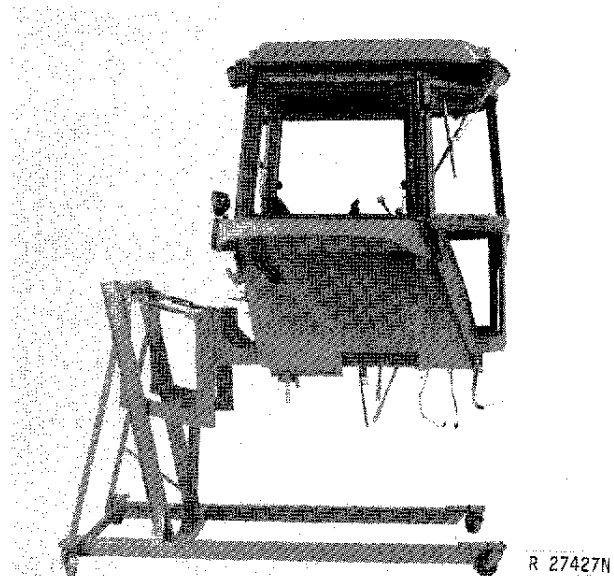

Fig. 11-Sound-Gard Body Removed from Tractor
37. Remove Sound-Gard Body and place on support stand (Fig. 11).